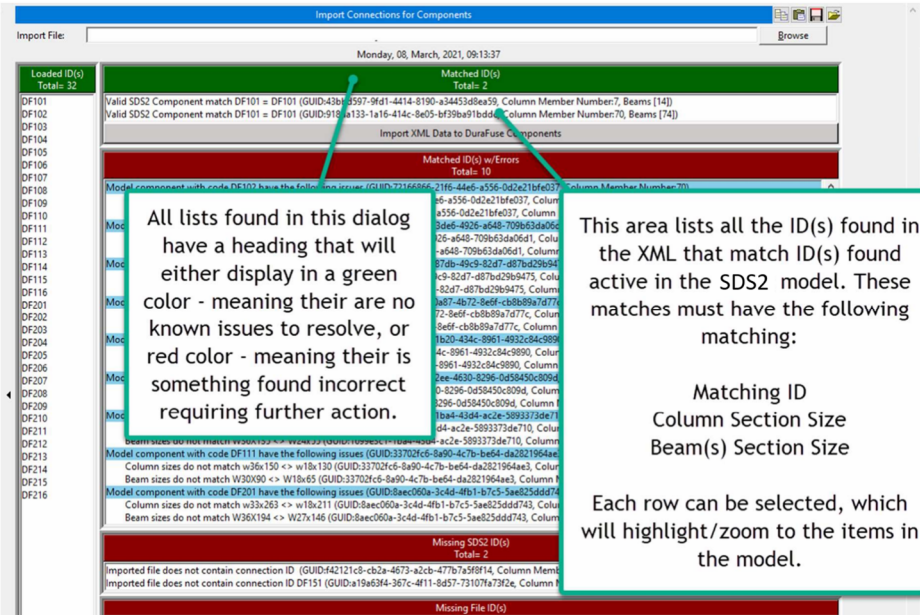
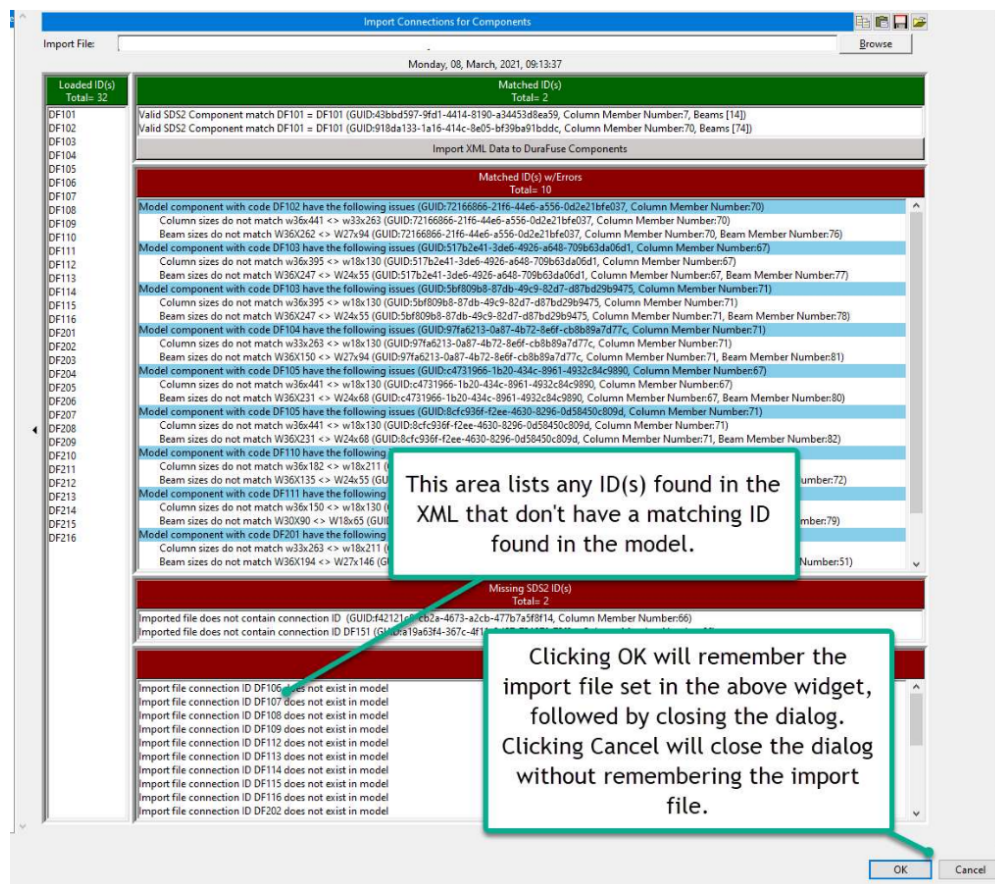

Figure 5-3. Matched Connection ID's
Figure 5-6. ID's In XML That Has Not Been Assigned in the Model
4. Once the import is complete, there are several sections in the dialog that will let the user know if the components were added successfully or if there are any errors. See Figure 5-3 through Figure 5-6 for an explanation each section of the window. Reported items: